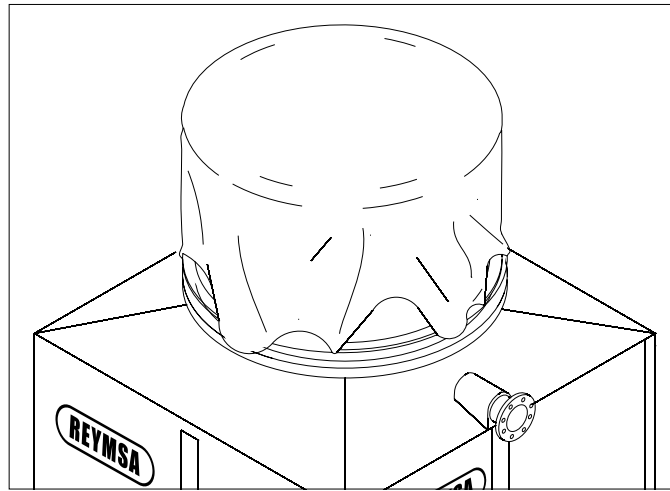

Figure C-9: Fan discharge covering
- To avoid any ice formation due to rain or snow and keep out dirt from inside and outside the towers components, covered them. Especially the fan discharge opening. (As shown in Figure C-9) Taking advantage that the system is turned off, you may want to do Tower service and maintenance. (Adjust motor base screw, balance and adjust fan assembly, clean the inside and outside of the equipment).